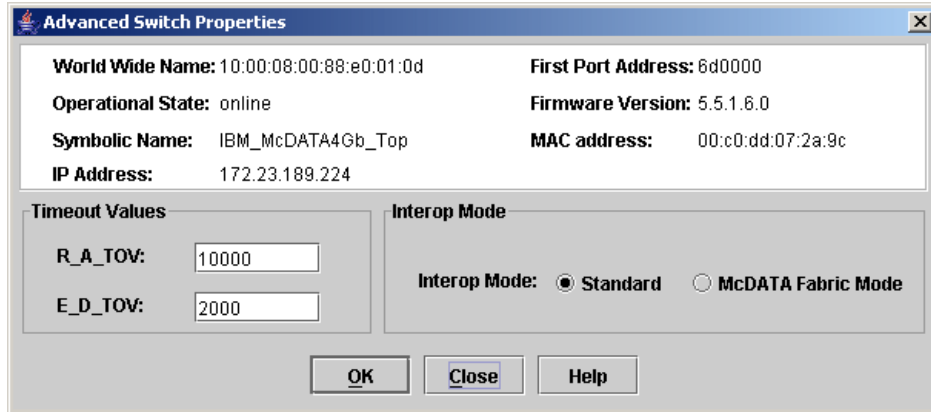

Figure 8-15 Advanced Switch Properties window
5. Select **Switch** → **Advanced Switch Properties**. You will see a window similar to Figure 8-15 on page 239.